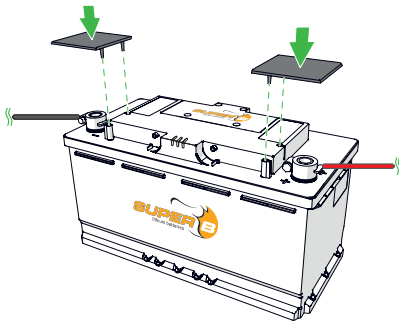

Figure 13. Place the accessory caps over that terminals. Accessory caps are not provided by Super B
5. Place the accessory caps over the terminals. (Figure 13)